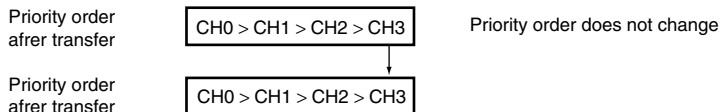

**Figure 9.3 Round-Robin Mode**
**Round-Robin Mode:** Each time one word, byte, or longword, or 16-byte data is transferred on one channel, the priority order is rotated. The channel on which the transfer was just finished rotates to the bottom of the priority order. The round-robin mode operation is shown in figure 9.3. The priority of the round-robin mode is CH0 > CH1 > CH2 > CH3 immediately after a reset.